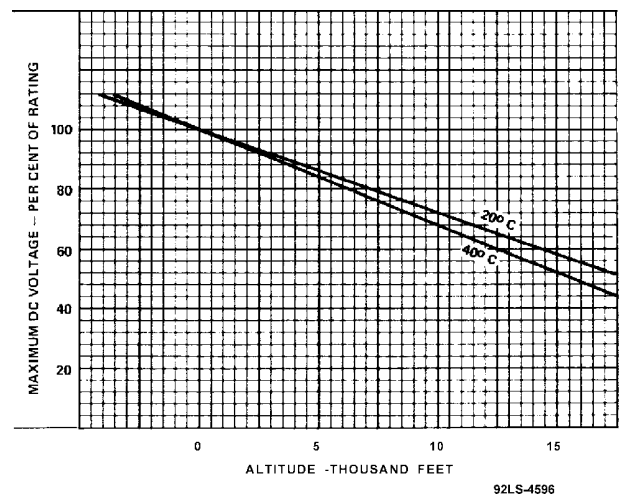

Figure 1 - Maximum DC Voltage with Respect to Altitude
9. The maximum voltage ratings must be modified for operation at altitudes higher than sea level and for temperatures in excess of 20 °C in accordance with the curves of **Figure 1**. For altitude derating of the plate voltage, use the voltage difference between plate and grid No.2. The fault energy dissipated within the tube during a high-voltage arc or fault must be limited by resistors or fault protection circuitry such as spark gaps or electronic "crowbars". This is especially important where large capacitors storing high energy are used. The following current limiting resistance values are recommended: